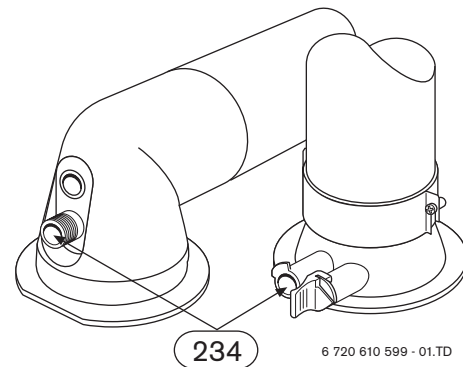

Fig. 43
- ▶ Switch on the appliance at the master switch (I).
- ▶ Unscrew sealing plug from flue gas testing point (234). Refer to fig. 43.